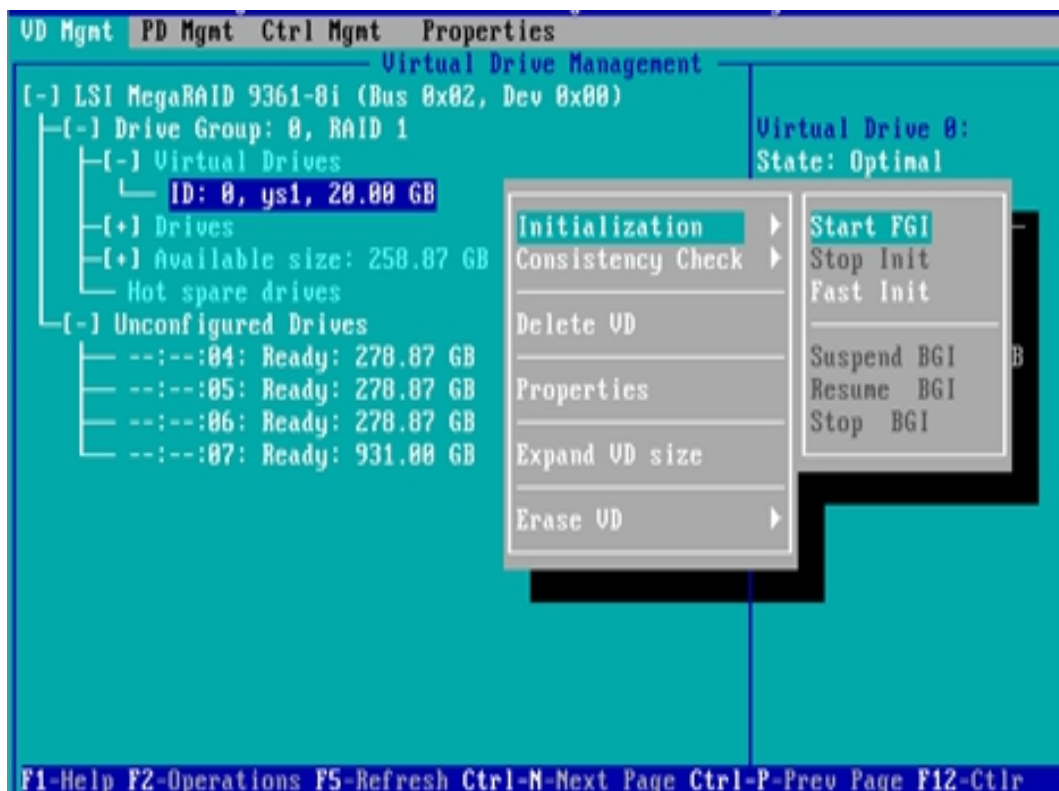

Figure 6-124
- b) Enter the interface shown in figure 6-124 and select initialization - > start FGI.
- ✧ Figure 6-124 select initialization - > start FGI